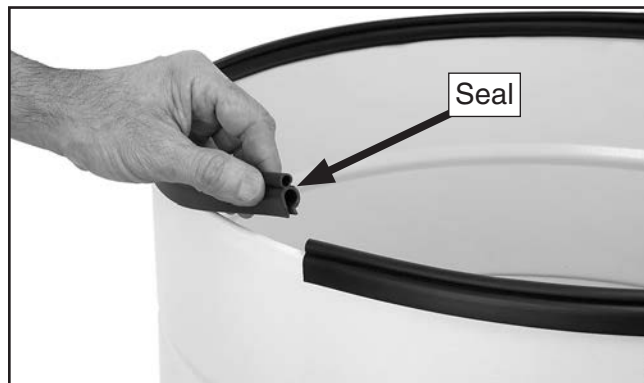

Figure 40. Installing drum seal.
45. Install the rubber seal over the top lip of the collection drum rim. Pay special attention to the direction of the seal, as shown in the **Figure 40**.